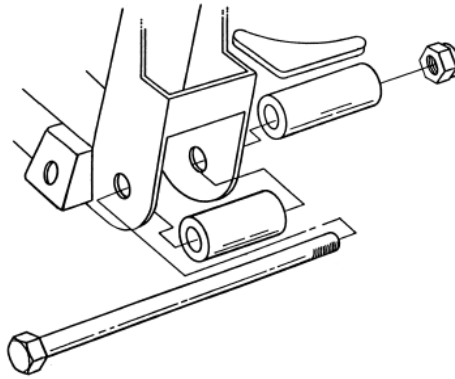

Figure 3- Install Spacers
5. If you purchased a complete I.F.S. Package from *HEIDTS*, it was supplied with Full Lower A-Arms. Begin by installing the Spacers onto the crossmember. The holes where the lower control arms attach to the Crossmember must be enlarged to 5/8". Mount the Crossmember Spacers and the Rear Spacers which were supplied with the Lower Control Arms onto the Crossmember as shown in **Figure 3** using the supplied Inner Bushing Bolts, Nuts and a temporary spacer under the Nuts. **DO NOT** use the A-Arms for this operation as the welding heat will melt the rubber bushings. Tighten the nuts bolts tight. Weld the Rear Spacers to the Crossmember all around. Weld the Crossmember Spacers as far as possible inside the crossmember on both ends. Position the Gussets horizontally, not vertically, against the Rear Spacers and the back of the Crossmember. Weld Gussets to Spacers and Crossmember. When it cools, remove the bolt.